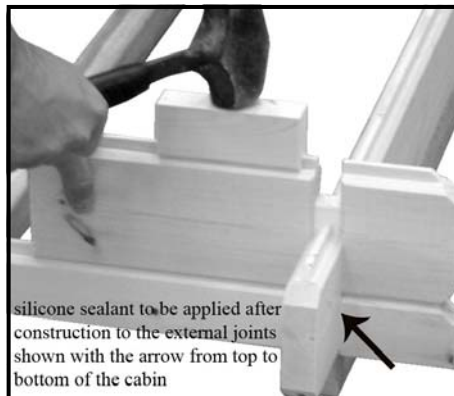

Fig E2
2. Once gables are in place knock down all the walls again as in fig E2 to ensure all the walls are fully home